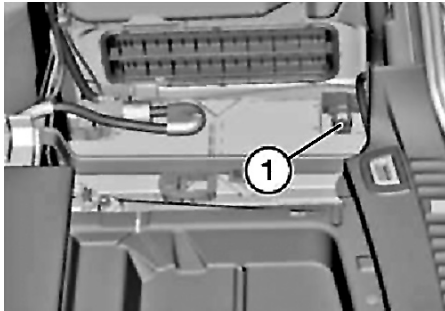

Fig. 6 Battery ground cable disconnection
9. Loosen battery ground cable terminal nut. (1), **Fig. 6.**